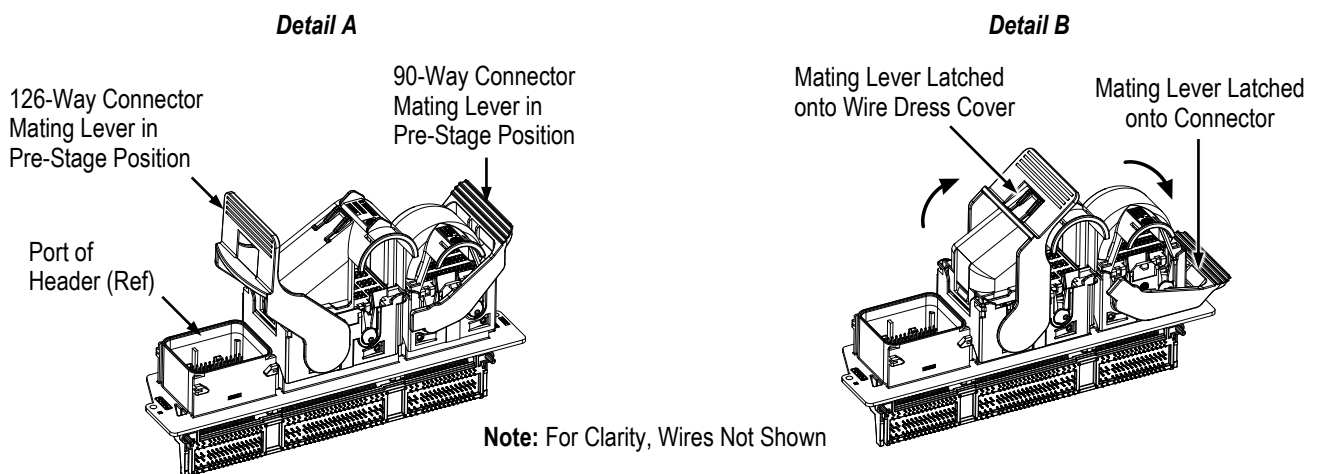

Figure 5
2. Align the mating face of the connector with the port of the header, seat the connector onto the header, then push it until there is an audible click. The mating lever will move to the pre-stage position as shown in Figure 5, Detail A.
For the 126-way connector, rotate the mating lever toward the wire dress cover exit until it latches onto the wire dress cover. See Figure 5, Detail B.
1. Press the latch holding the mating lever (shown in Figure 5), and rotate the mating lever until it stops.